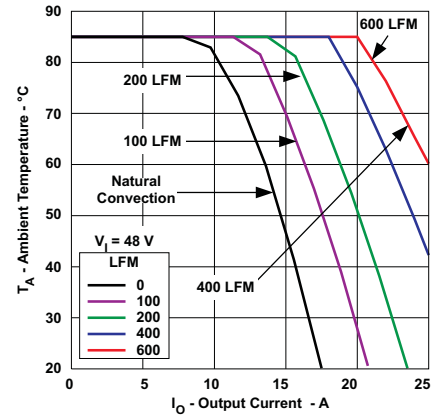

Figure 3.
- (2) The temperature derating curves represent operating conditions at which internal components are at or below manufacturer's maximum rated operating temperature. Derating limits apply to modules soldered directly to a 100-mm × 100-mm, double-sided PCB with 2 oz. copper. For surface mount packages, multiple vias (plated through holes) are required to add thermal paths around the power pins. Please refer to the mechanical specification for more information. Applies to Figure 3.